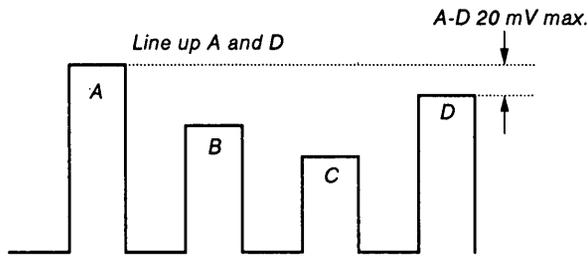

Fig. 20
- 2) Adjust **[PHASE NTSC 443 ACC OFF]** in the same manner as in 7-5) above. (Fig. 20)